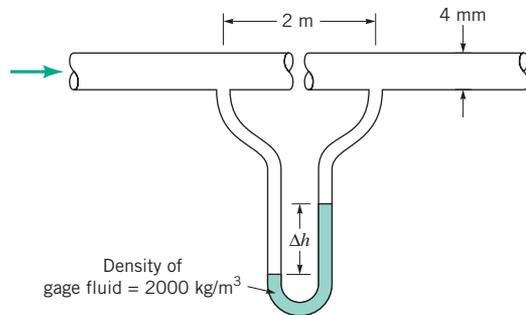

FIGURE P6.81
**6.81** A liquid (viscosity =  $0.002 \text{ N} \cdot \text{s}/\text{m}^2$ ; density =  $1000 \text{ kg}/\text{m}^3$ ) is forced through the circular tube shown in Fig. P6.81. A differential manometer is connected to the tube as shown to measure the pressure drop along the tube. When the differential reading,  $\Delta h$ , is 9 mm, what is the mean velocity in the tube?